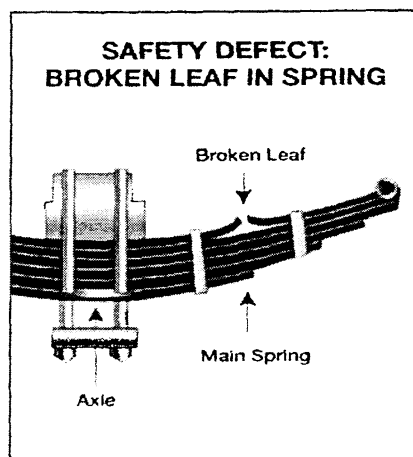

Figure 2.3
- Missing or broken leaves in any leaf spring (see Figure 2.3). Any defect could be dangerous. If any of the following conditions exist the vehicle will be placed "out of service", and must be repaired: